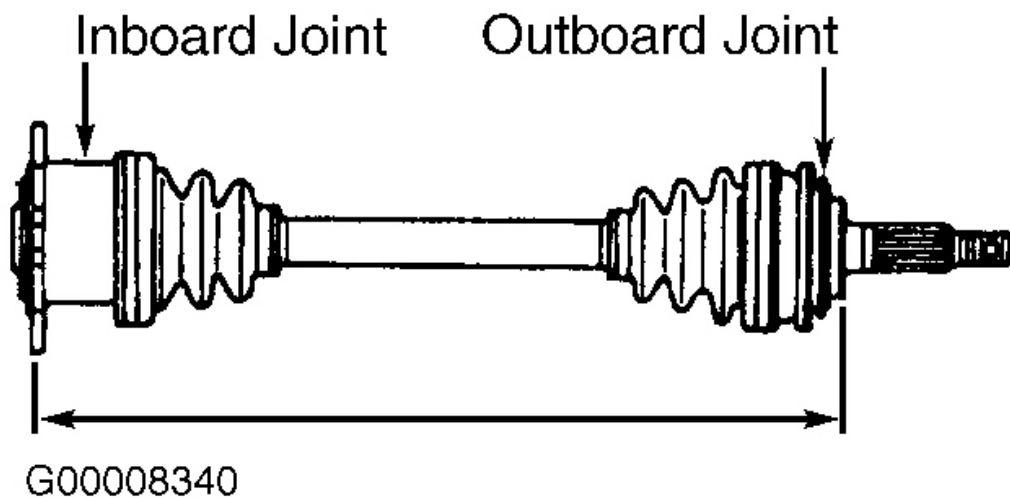

Fig. 5: Showing Standard Length Measurement Of Rear Drive Axle
4. Pack outboard joint and boot with grease. Ensure both boots and on shaft groove and that boots are not stretched or compressed when drive axle assembly is at standard length. See **Fig. 5** . See **DRIVE AXLE STANDARD LENGTH** table. Install 4 NEW boot clamps. Bend clamp band and lock in place.